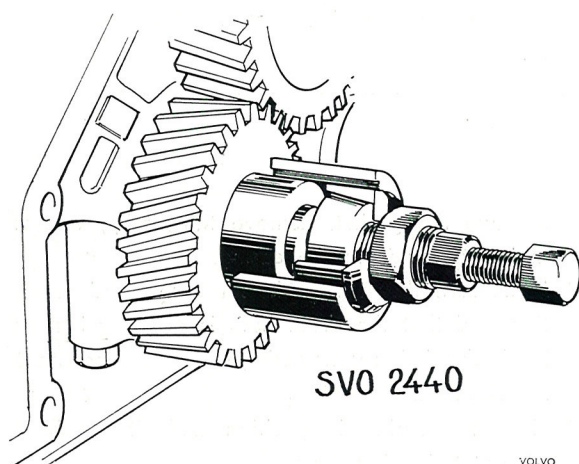

Fig. 2-44. Removing the hub on the crankshaft
3. Remove the hub from the crankshaft with puller SVO 2440. See Fig. 2-44.